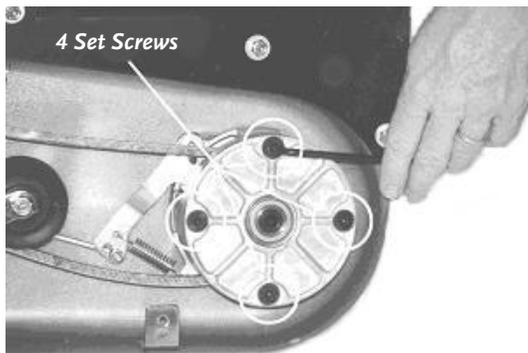
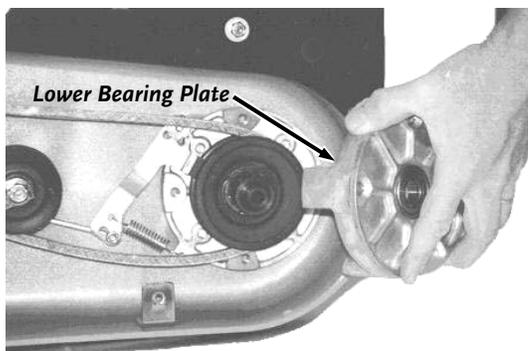

Figure 32
Figure 33
4. Remove the four Hex Head Mounting Bolts on the underside of the Lower Bearing Plate (**Figure 32**). The Lower Bearing should come off with the Plate (**Figure 33**).